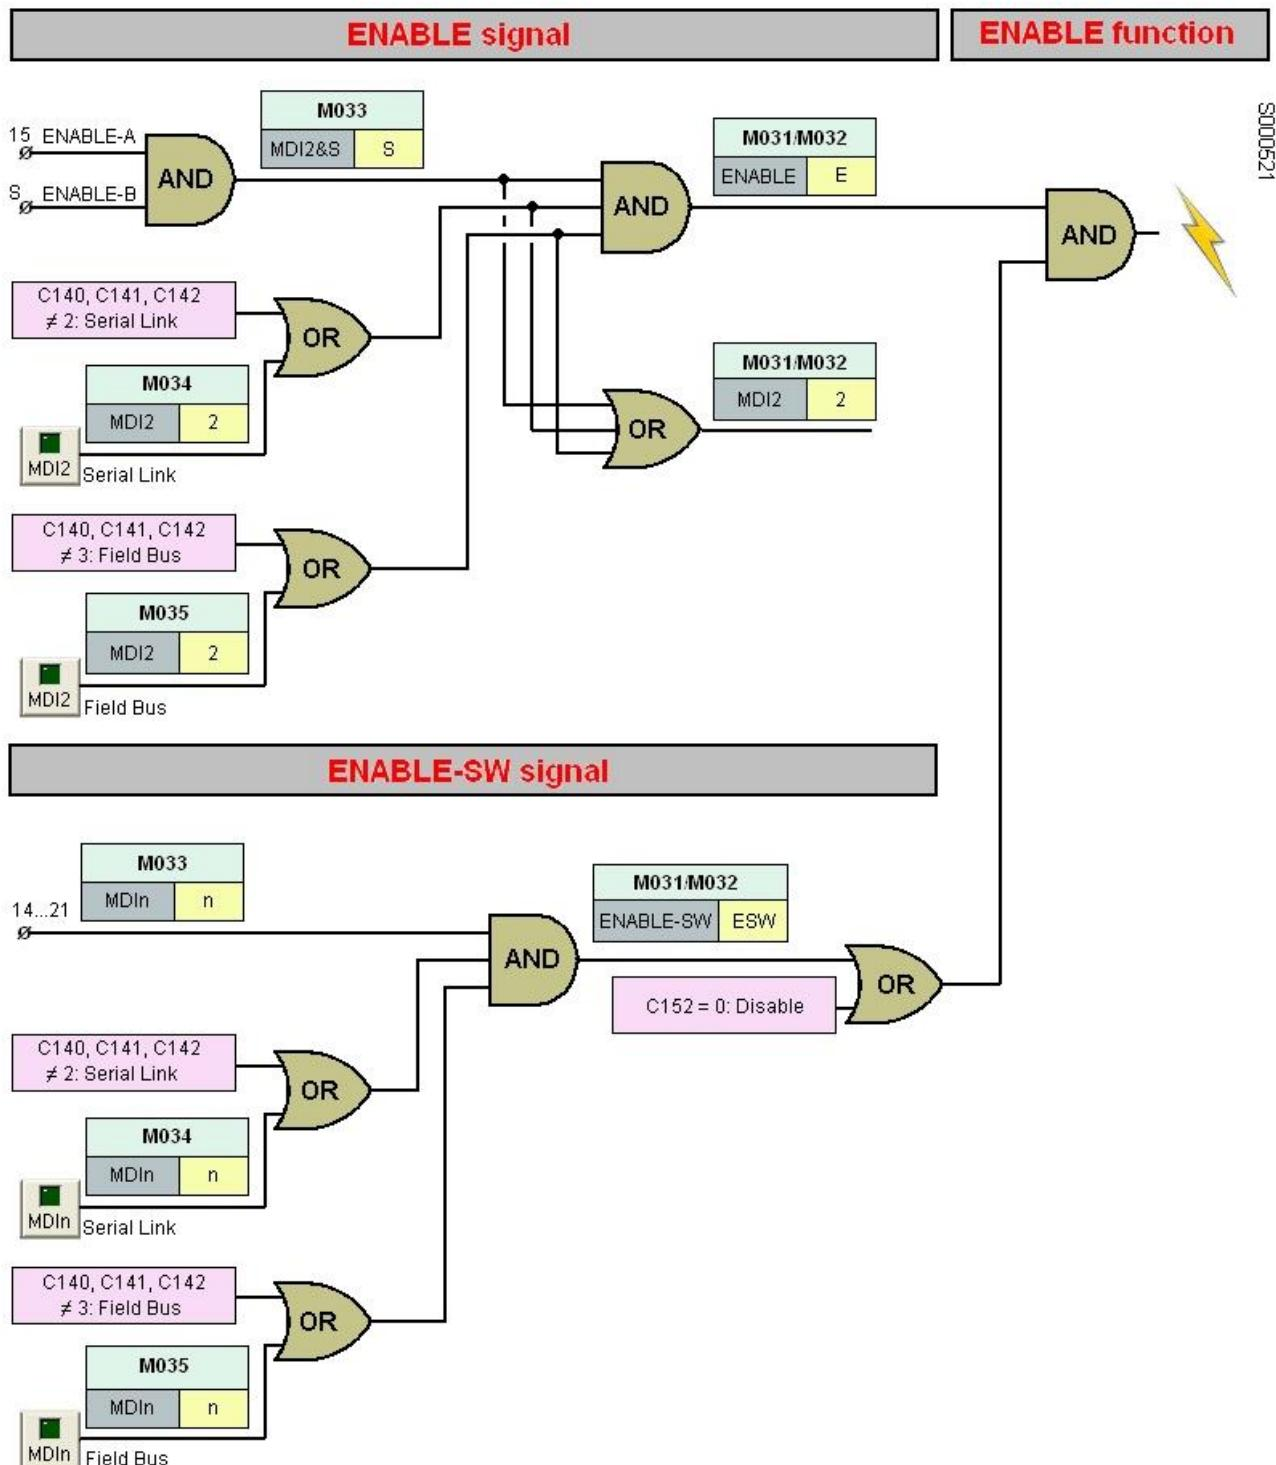

Figure 5: The ENABLE Function
Function	Status of the control terminal board used by the drive. This is the terminal board resulting from the combination of the preset command sources (local terminal board, serial link and fieldbus), where: - Inputs MDI1 to MDI8 are the result of the OR between the different control sources. - The ENABLE (E) status is the result of the AND of inputs MDI2&S of the physical terminals and of MDI2 inputs of all the other programmed control sources. - The ENABLE SW (ESW) is the result of the AND of the inputs programmed as ENABLE SW (C152) of all the programmed command sources. See also the Control Method Menu, section 2.6.6. Refer to Figure 5 for the ENABLE and ENABLE SW status. For further information, contact Enertronica Santero.